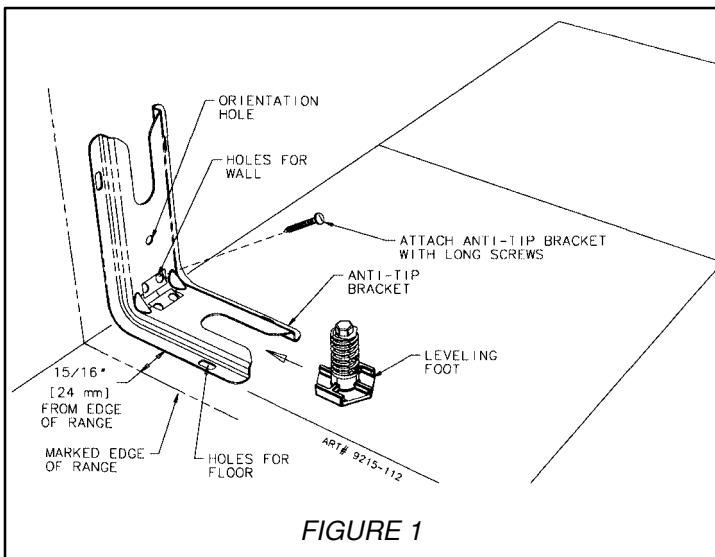

FIGURE 1
STEP 1 - Locating The Bracket (see figure 1)
- B. Place the BRACKET 15/16" from the marked "EDGE" toward center of opening and against the back wall as shown in figure 1, with orientation hole against wall.
- C. Use the bracket as a template and mark the required holes, as shown in figure 1 for the type of construction you will be using.
1. Floor: Locate the center of the two holes identified in figure 1 as "HOLES FOR FLOOR". Drill a 1/8" pilot hole in the center of each hole (a nail or awl may be used if a drill is not available). Secure the ANTI-TIP bracket to the floor with the two screws provided. Proceed to STEP 3.
2. Wall: Locate the center of the two holes identified in figure 1 as "HOLES FOR WALL". Drill an angled
1. Suitable screws for concrete construction can be obtained at a hardware store. Drill the required size hole for the screws obtained into the concrete at the center of the holes identified in figure 1 as "HOLES FOR FLOOR". Secure the ANTI-TIP bracket to the floor. Proceed to STEP 3.